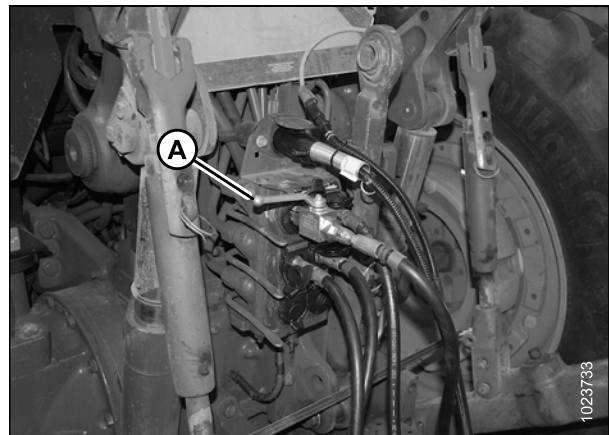
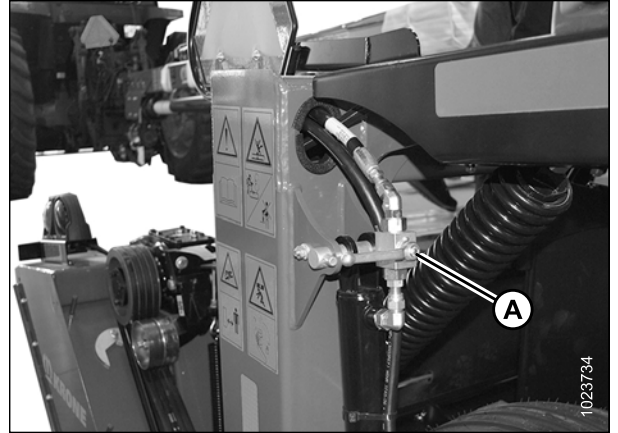

Figure 6.49: Steering Lock-Out Valve
Figure 6.50: Lift Cylinder Lock-Out Valve
11. Close the steering lock-out valve and the two lift cylinder lock-out valves by turning the handles to the closed position. Refer to Figure 6.49, page 180 and Figure 6.50, page 181.